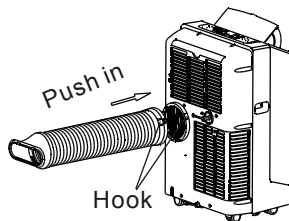
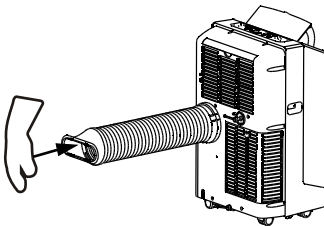

Fig.19
Fig.20
2. Place the Exhaust hose over against the air outlet opening hook(See Fig.19) and flat the other end(See Fig.20) for quick installation.